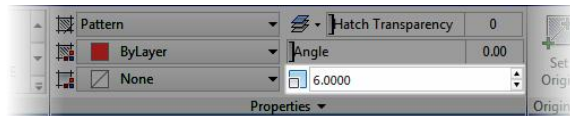

FIGURE 11.3: Setting the Hatch Pattern Scale on the contextual Hatch Creation tab
8. Enter 6 (150) in the Hatch Pattern Scale text box and press ↵, as shown in Figure 11.3.